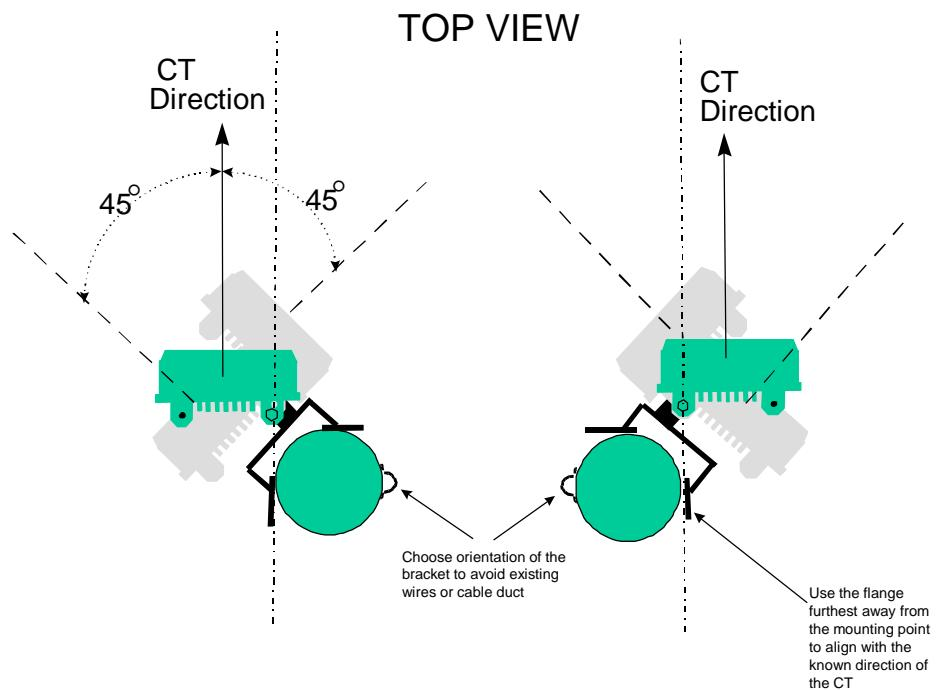
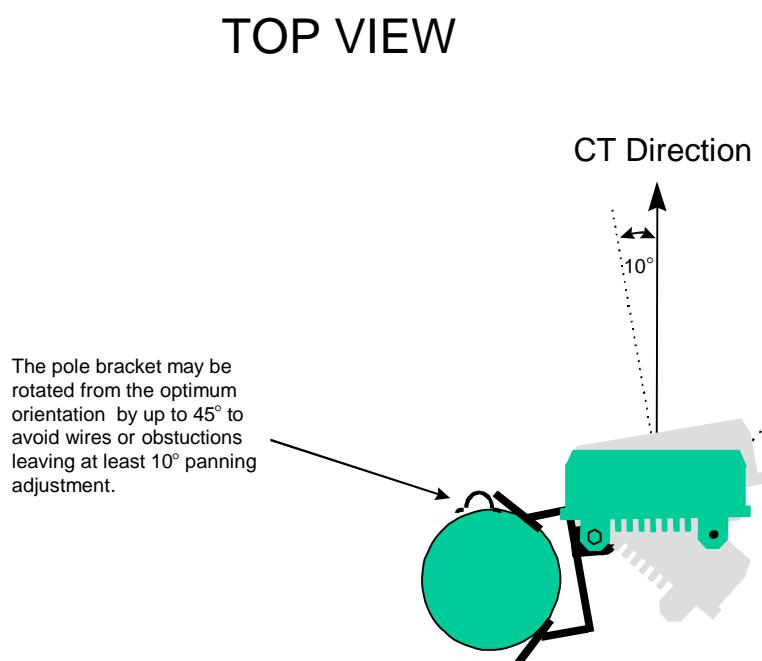

Figure 7. Choice Of Bracket Orientation
Figure 8. Non-Ideal Bracket Orientation
2.	2. Before fitting the mounting bracket establish the direction of the RLT site so that the mounting bracket can be positioned in the correct orientation to allow a suitable panning swing of the CRU (see Figure 7). Use a compass if necessary.
3.	3. Note: The CRU is not used for the initial installation of the bracket. The CRU body is only shown in Figure 7 and Figure 8 to illustrate the final position and panning angles.
4.	4. There are two choices for bracket orientation that can be selected by turning the bracket upside-down. The actual choice depends upon the presence of wire or cable ducting that may interfere with the mounting of the bracket against the pole. Line up the mounting flange edge furthest away from the CRU mounting point to the known direction of the RLT. This may be done at a convenient height for eye level alignment and the bracket then moved vertically up or down to the intended position. If the desired orientation of the bracket is not possible some additional rotation is acceptable provided that a minimum panning adjustment angle of 10° is maintained (see Figure 8).